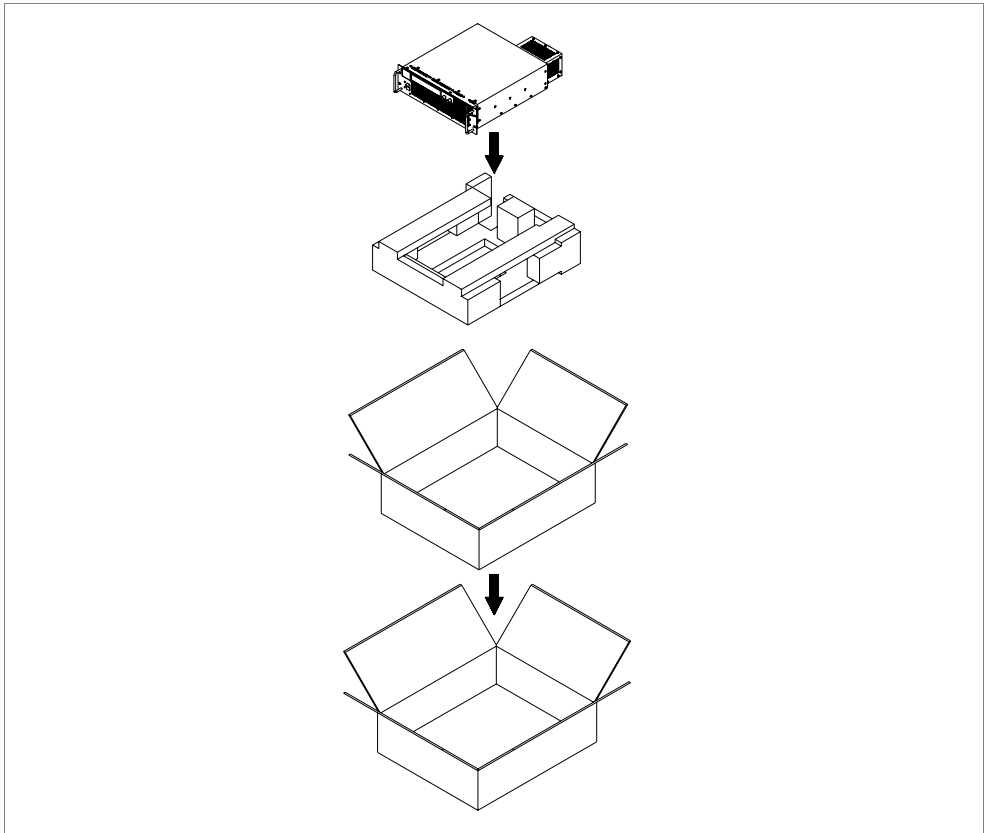

Figure 2.2 Unpacking the Power Supply (6000 Watt shown)
1. Open the box containing the unit. See Figure 2.2.